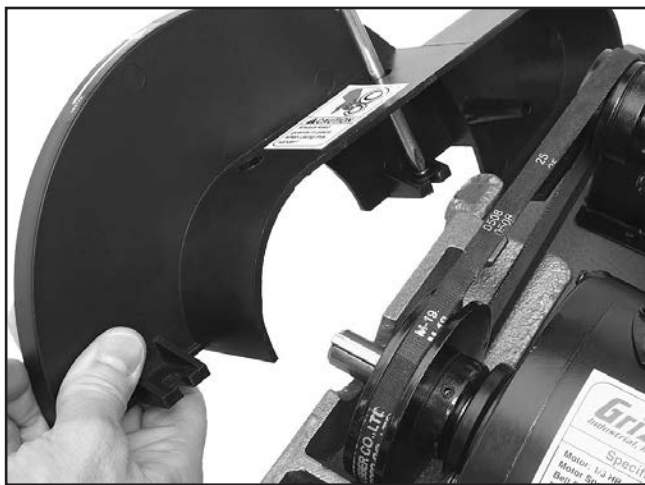

Figure 11. Holding V-belt cover mounting fastener in place.
6. Insert one M4-.7 x 8 Phillips head screw and flat washer into the left inside mounting bracket of the V-belt safety cover (see **Figure 11**). Then hold it in place with a screwdriver as you slide the cover over the V-belt and tighten the fastener into the cast iron disc guard.